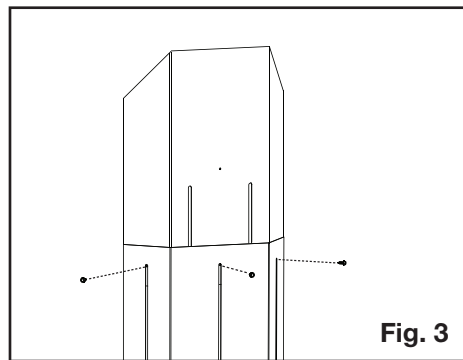

Fig. 3
3. Use the fasteners in step 1 to hold the new vent shield height (Figure 3).